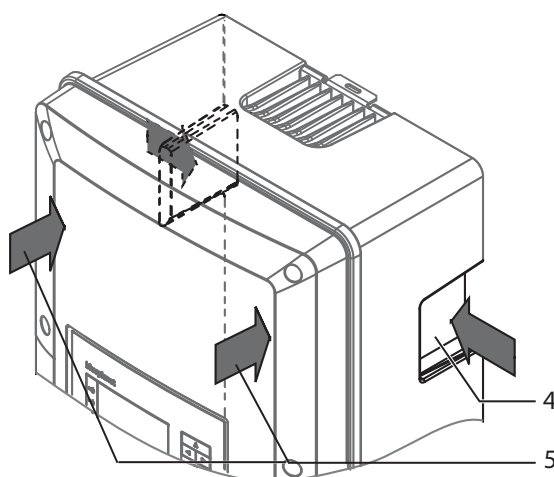

Figure 9: Erect the device
6. Lift the inverter at the intended positions and erect (see Figure 9 on page 15).